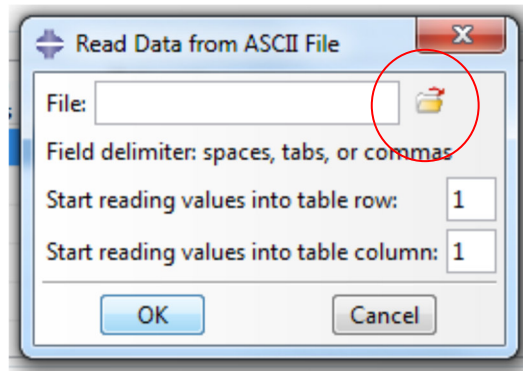
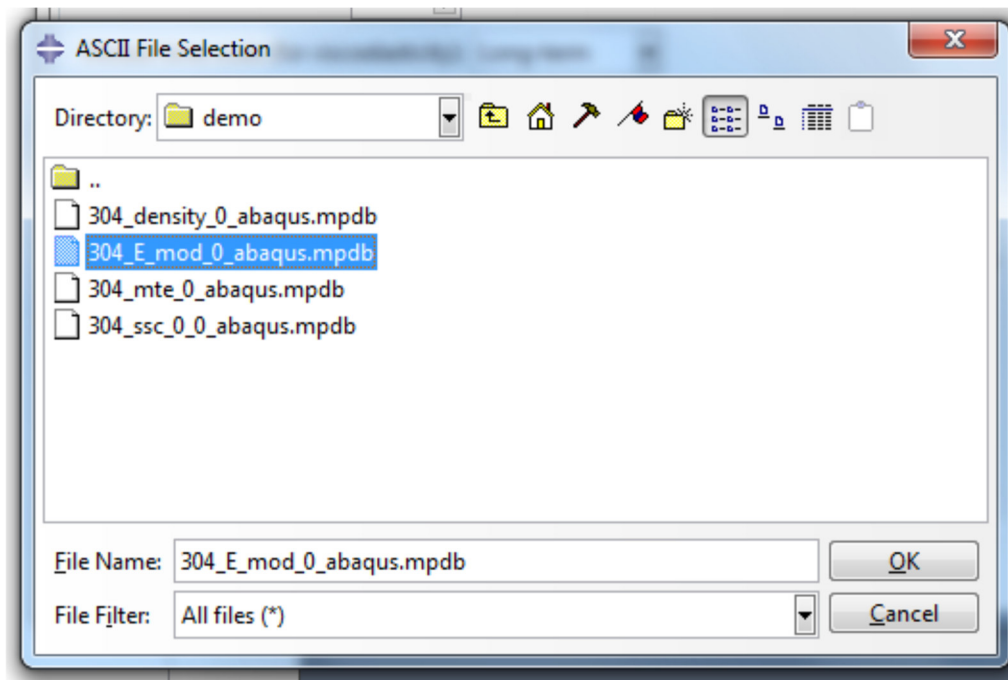

Figure 9.
Figure 10.
- e) A new window will open, click on the file icon (Figure 9) and navigate to the data file created above in part a in the MPDB software, select it and click “OK”, Figure 10.